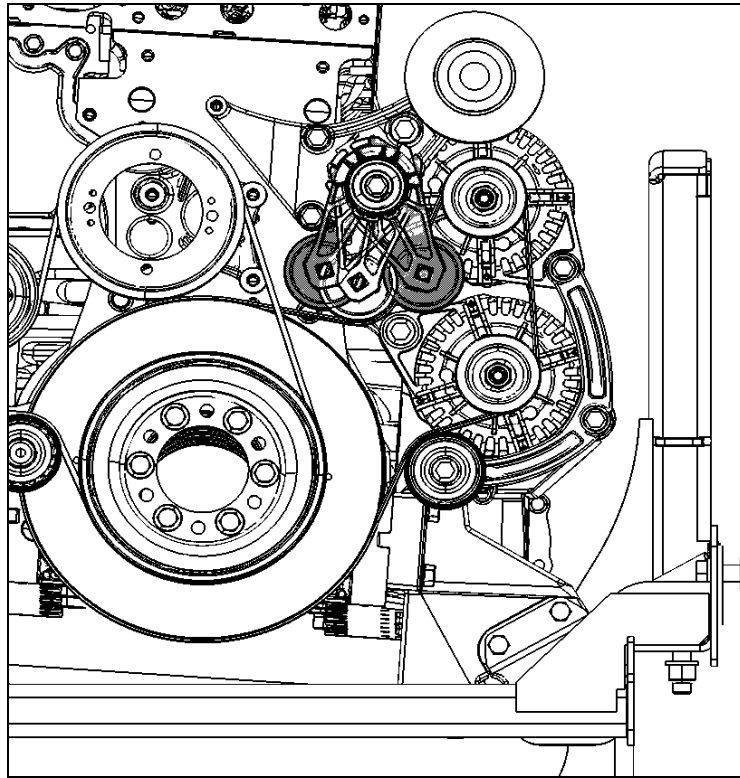

FIGURE 27: ALTERNATOR DRIVE BELT
If the alternators needed to be removed, reinstall as follows. Refer to figure 27 for installation and to figure 28 for tightening specifications:
7. Install alternators belt (figure 27).
1. Insert a 3/4" socket drive into the automatic belt tensioner opening (Fig. 27).